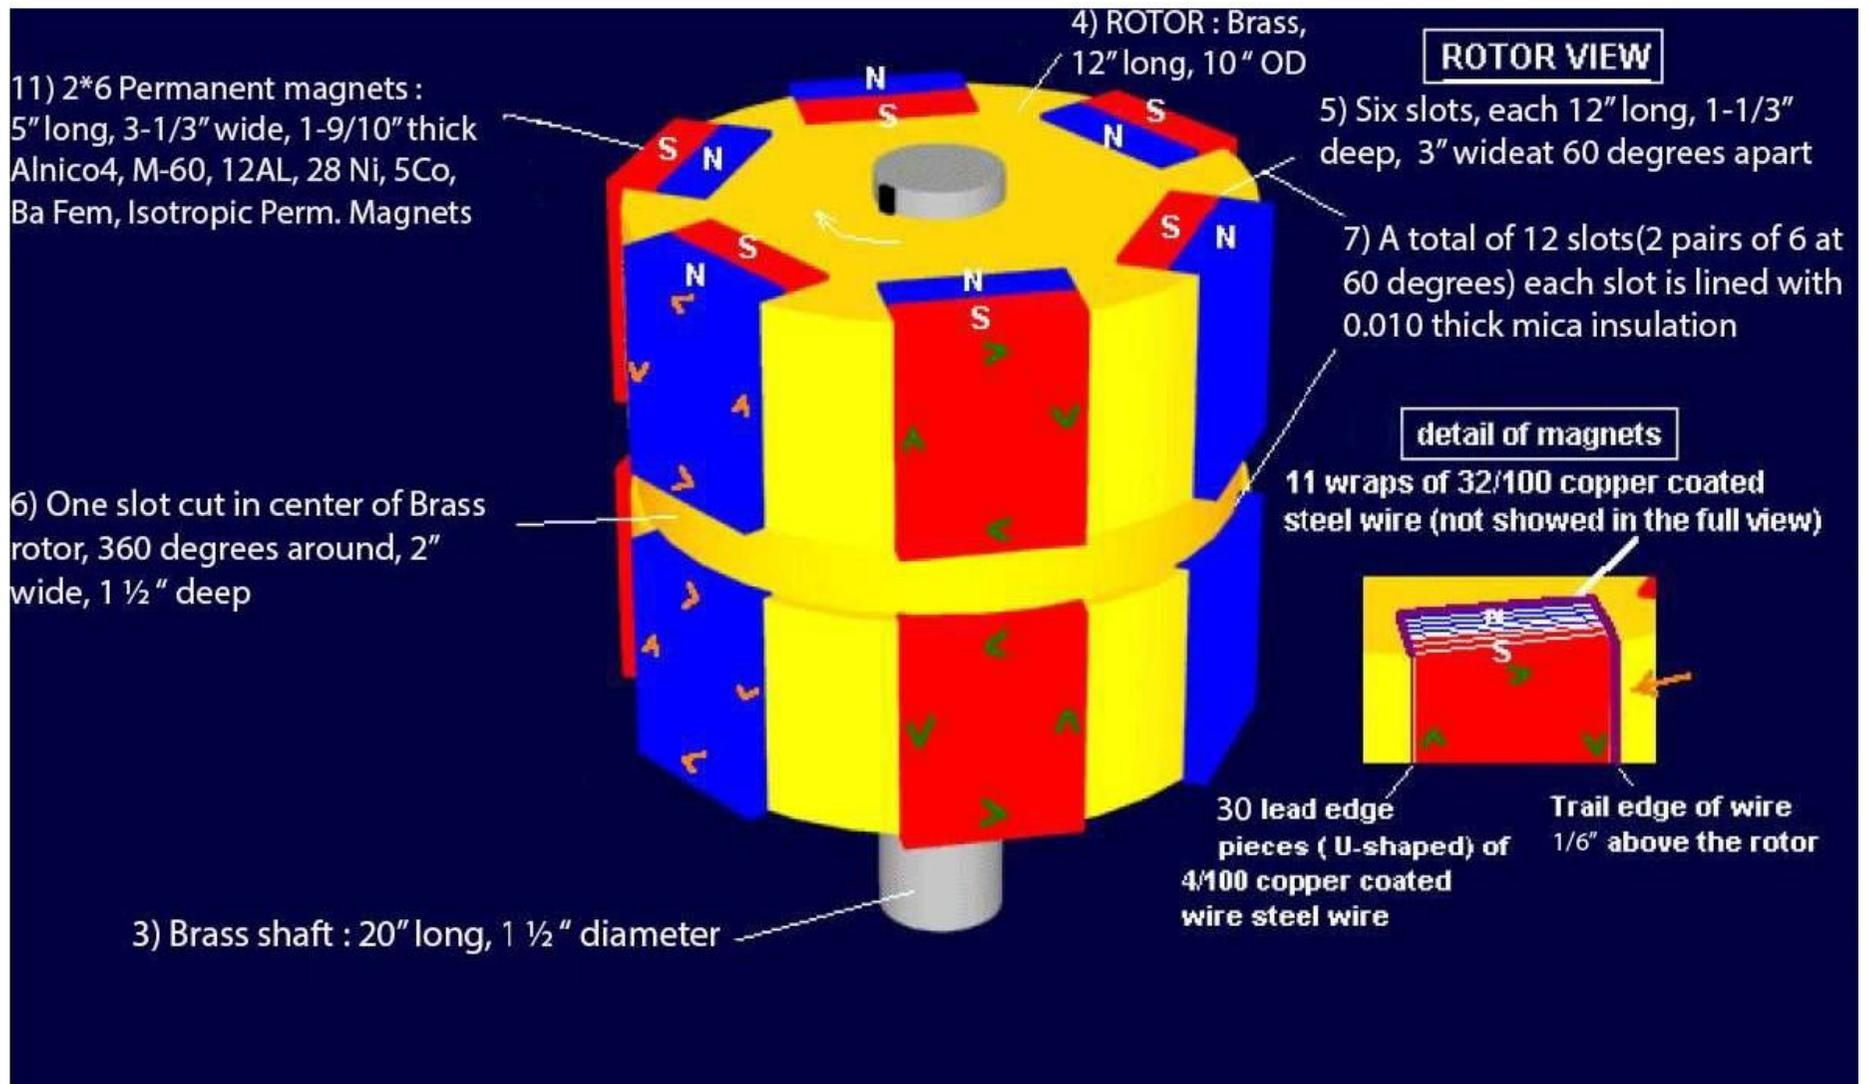

Figure 9.
- 14) In the Figure 9 you will see the wires being wrapped around the magnet right from the top half (north) and after wrapping around the magnet 11 times, you will see that it is connected to the lower half (south). This wire then goes into the second magnet and is connected to another wire which is the attract wire which is its north side. Following these steps all the magnets will be attached from north to south or from south to north. The actual connections should not be soldered with the insulation and instead should be crimped copper clips that stop the contact to the Rotor body. The magnets that are used are fixed by the wires and are wrapped tight and comfortably around them. This might not be the best way to do the experiment. However, it sure keeps the magnet in one place.